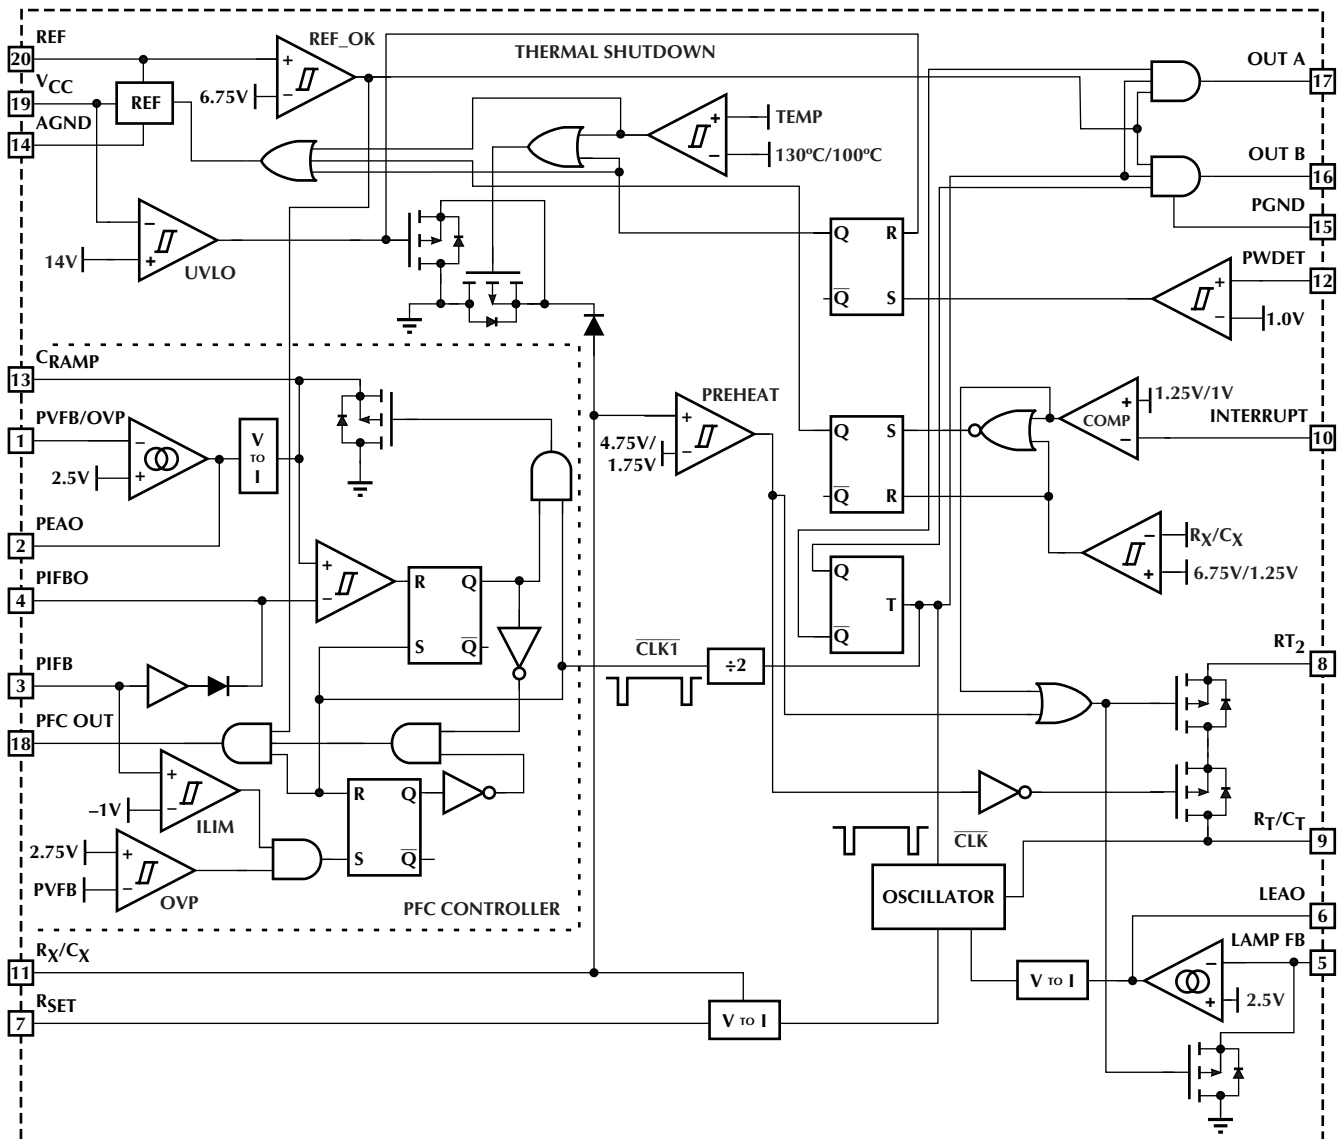

Figure 1. Detailed Block Diagram
The ML4835 consists of peak or average current controlled continuous boost power factor front end section with a flexible ballast control section. Start-up and lamp-out retry timing are controlled by the selection of external timing components, allowing for control of a wide variety of different lamp types. The ballast section controls the lamp power using frequency modulation (FM) with additional programmability provided to adjust the VCO frequency range. This allows for the IC to be used with a variety of different output networks. Figure 1 depicts a detailed block diagram of ML4835.